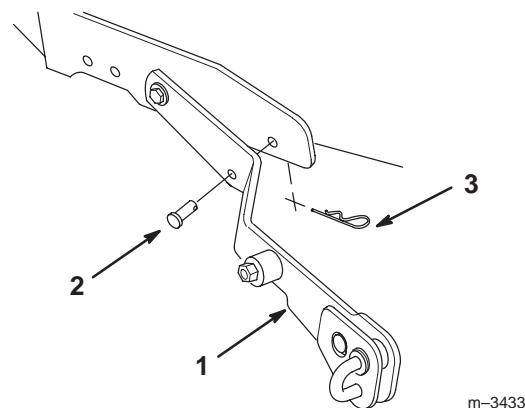

Figure 9
4. The two lift arms are attached to the tractor frame, just ahead of the rear wheels. Secure the lift arms to the tractor frame with 3/8" x 1" (25 mm) clevis pins and small hairpin cotters (Fig. 9).